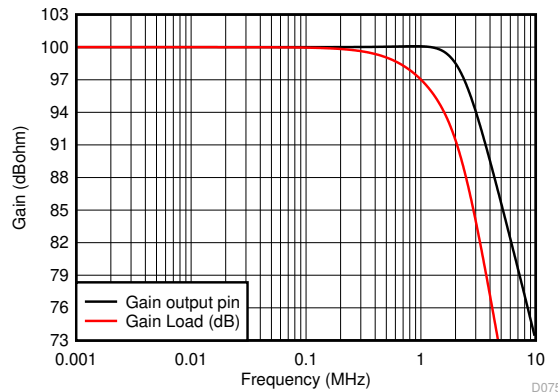

Figure 8-8. Small-Signal Response for 100-k Ω Transimpedance Gain
- Assume a nominal source capacitance value of 100 pF. This normally comes from the capacitance versus reverse bias plot for the photodiode. No reverse bias is illustrated in Figure 8-8, but the current source is typically a back biased diode with a negative supply on the anode and the cathode connected to the op amp inverting input. In this polarity, the signal current sinks into the diode and raises the op amp output voltage above ground.
Implementing this design and simulating the performance using the TINA model for the response to the output pin and to the final capacitive load shows the expected results of Figure 8-8. Here, the exact 2.2-MHz flat Butterworth response to the output pin is shown with the final single pole rolloff at 1 MHz at the final 2.2-nF capacitor.